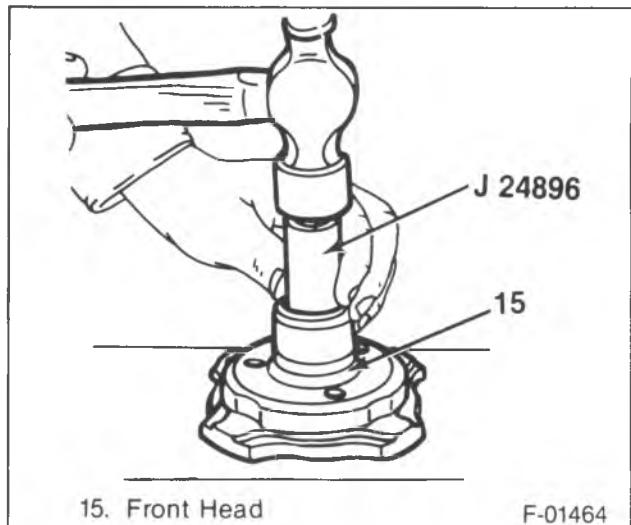

Figure 20—Removing the Bearing from the Front Head
1. Rotor (5) and bearing (6) assembly.
2. Front head (15) and seal (17).
3. Bearing (16) from the front head (15) (figure 20).